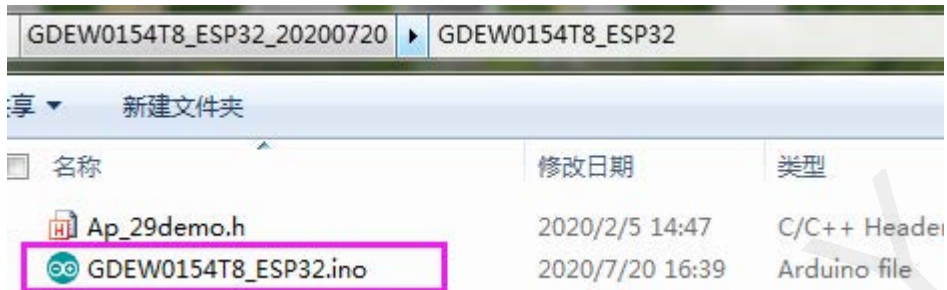

Figure 7 : Open Arduino.ino
2. Open Arduino in the driver folder shown in Figure 7 with Arduino 1.8.6 ino engineering document.